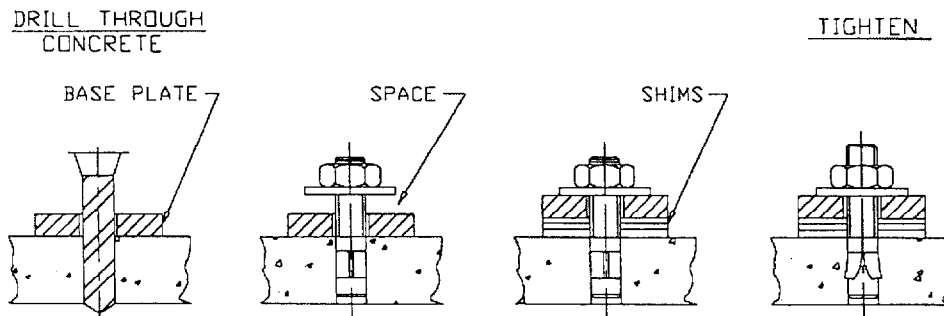

Figure 9 - Anchor Installation
5. After proper levels are attained for both the raised and lowered positions, use a rotary hammer drill and a 1/2" concrete drill bit to drill through the floor in the four (4) anchor bolt location holes on each of the base frames. Make sure that the 1/2" concrete drill is in good condition. Refer to Figure 9.